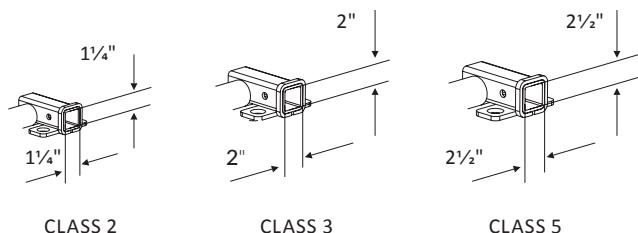

Figure 3-2
*NOTE: The hitch class is usually imprinted directly on the trailer hitch. You can also determine the hitch class by measuring the inside of the receiver on the trailer hitch. See Figure 3-2.*